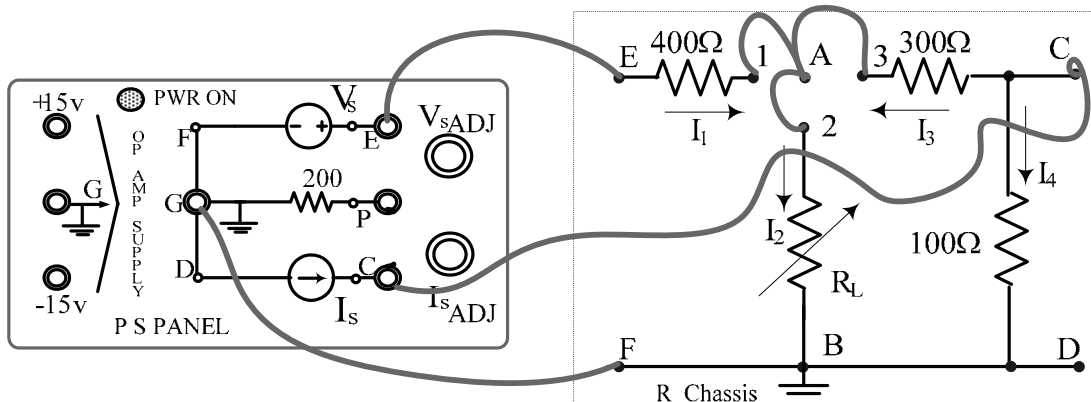

Figure 1.12
**PART (B): Procedure & Results**
1. **Make sure that the PSP is turned OFF.** Make the patchcord connections shown in Figure 1.12 between the PSP and the R-Chassis using available banana-plug patchcords of appropriate lengths and colours\*